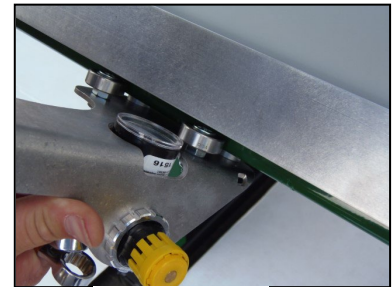

Fig 22
11. Once the arm has been properly positioned, tighten up the lower bolt on the top bracket to secure the arm. (Fig 22) *NOTE: you will only need to tighten the lower bolt on the top bracket. The upper bolt will be tightened once the arm has been adjusted to be parallel to the left fence.*
12. Next you will need to position the arm parallel to the left fence on the table. To do so, move the arm as close to the left fence as you can. Visually confirm the space between the fence and arm at the top and bottom of the arm. Once the position has been verified, tighten the upper bolt that secures the arm to the top bracket. (Fig 22)